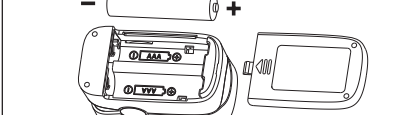

Figure 2 Battery Installation
- A. Put the two AAA batteries into battery compartment in correct polarities (Figure 2).